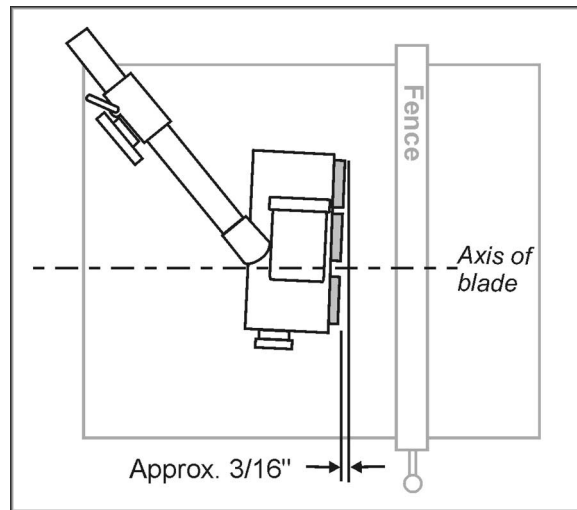

Figure 13
4. Position the Stock Feeder so that the axis of the saw blade lines up between the infeed roller and center roller. See Figure 13. This will allow the Stock Feeder to grip the near part of the workpiece as it enters the blade, as well as the offcut of the workpiece as it leaves the blade.
5. Rotate the Stock Feeder so that the direction of feed is angled slightly toward the fence by approximately  $3/16"$  (5mm); that is, the outfeed roller should be slightly closer to the fence than the infeed roller. See Figure 13.